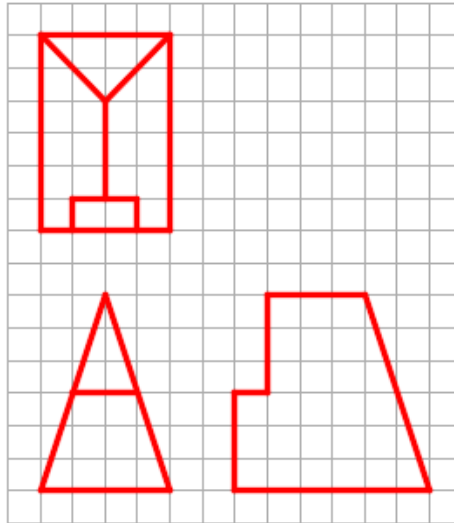

Figure Step 13
Step 13 Using what was just taught, draw the isometric drawing of: Object 7-2. Draw it in the top right corner of the grid. (Figure Step 13)